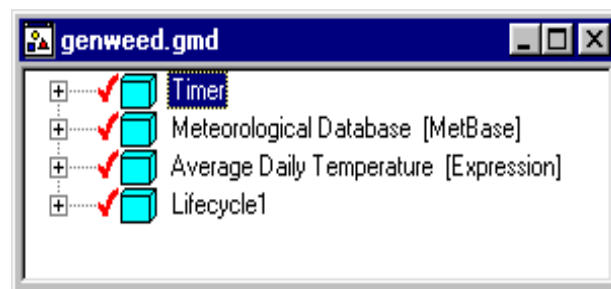

Figure 4.4 The Gen-weed model after the Lifecycle sort order is altered.
5. Return to the '**Model**' window - it should resemble figure 4.4.